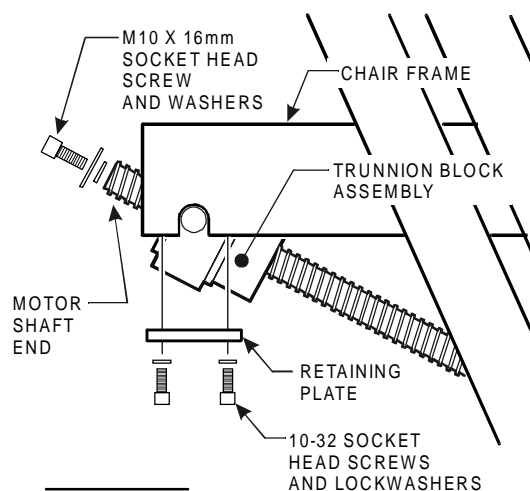

Figure 2
3. Position a 21" long wooden 2x4 support under the top structure and lower the chair onto this support. (See Figure 2).
4. Remove (4) #10-32 socket head screws and lockwashers and (2) retaining plates to release the trunnion block assembly from the chair frame (See Figure 2).
5. Remove the M10 x 16mm socket head screw, flat washer and lockwasher from the motor shaft end and unscrew the trunnion block from the motor shaft (See Figure 2).